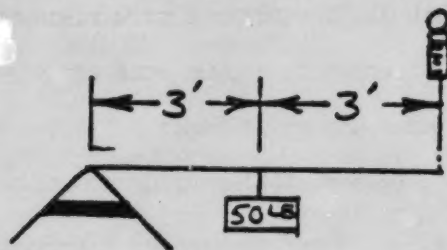

FIG. 2
- C. Place lever so that one end rests on the horse. Hang 50 lb. weight in middle of lever and with scale attached to free end lift until weight clears the floor. (Figure 2). Record all data.